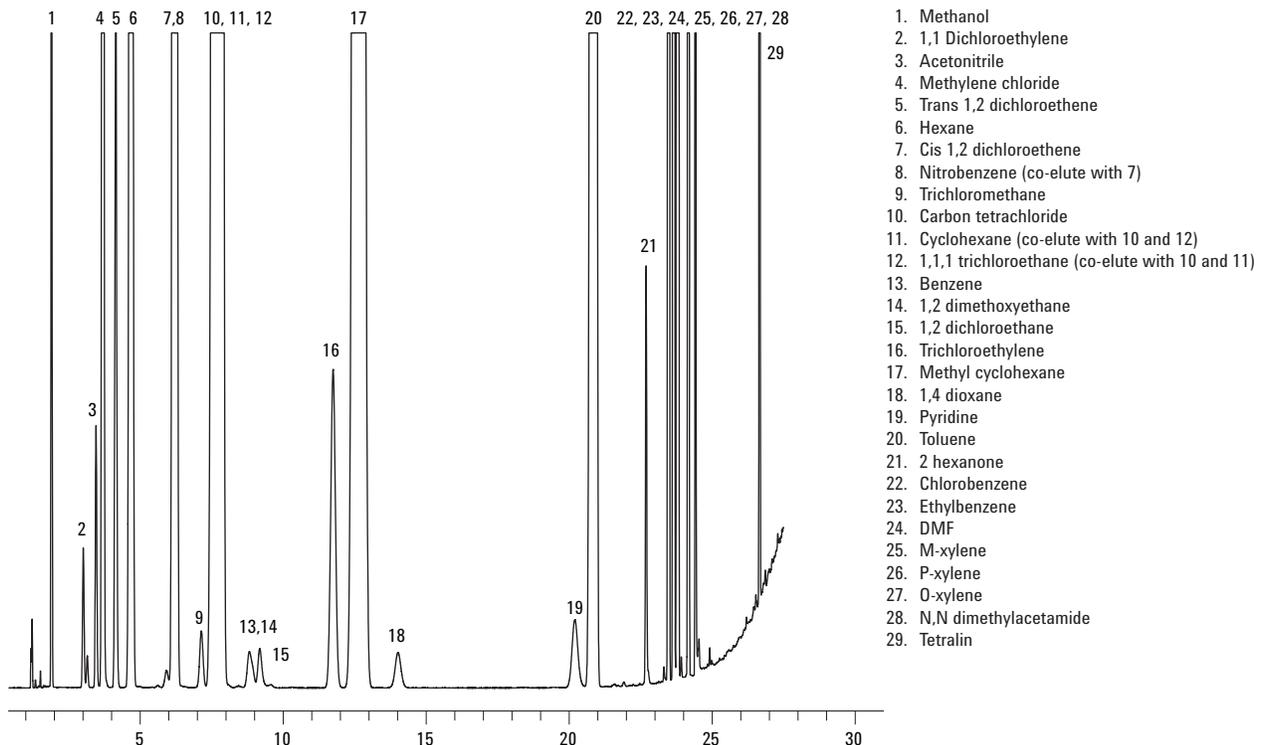

Figure 1. Class 1 and Class 2 residual solvents.
Low-level residual solvents are typically determined by gas chromatography (GC) coupled with a flame ionization detector (FID) and a static headspace sampling device. Figure 1 shows a chromatogram of a standard solution of Class 1 and Class 2 residual solvents at the allowed limit concentrations as defined by the ICH (between 2 and 5,000 ppm). Pharmaceutical quality control laboratories currently face a number of instrument-related issues: